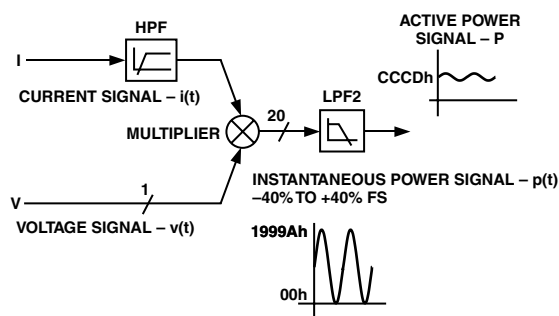

Figure 34. Active Power Signal Processing
Figure 34 shows the signal processing chain for the active power calculation in the ADE7759. As explained, the active power is calculated by low pass filtering the instantaneous power signal.
As mentioned in the last section, the discrete time sample period (T) for the accumulation register is  $1.1 \mu\text{s}$  ( $4/\text{CLKIN}$ ). With full-scale sinusoidal signals on the analog inputs, digital integrator turned off, and the active power gain register set to 000h, the average word value from LPF2 is CCCD—see Figures 34 and 35. The maximum value that can be stored in the active energy register before it overflows is  $2^{39}$  or